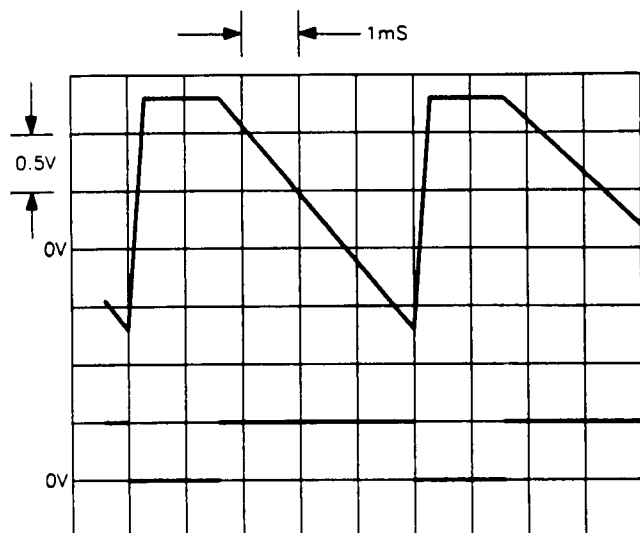

**Figure 2.** VCO Tune and High Frequency Loop One-Shoot.
7. Switch the Signal Generator back ON. Verify that the oscilloscope display shown in Figure 2 is correct.